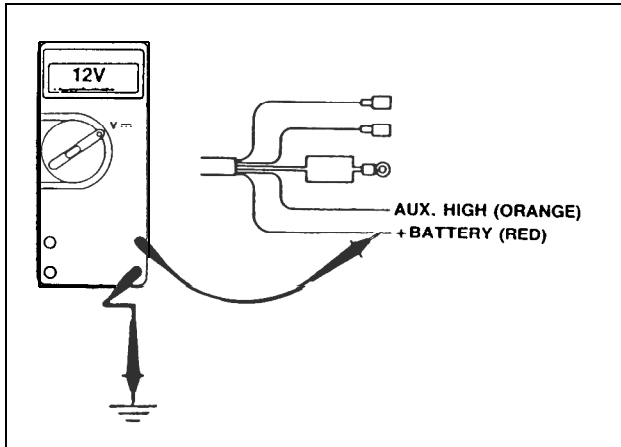

FIG. 1.1.32
**Correction:** Check that the connector between the vehicle power supply and the red line to the Jacobs control module is tight and free of any corrosion or oil. With the vehicle ignition turned on, +12 VDC must be measured at the red wire (Fig. 1.1.32). If not, continue with checks.